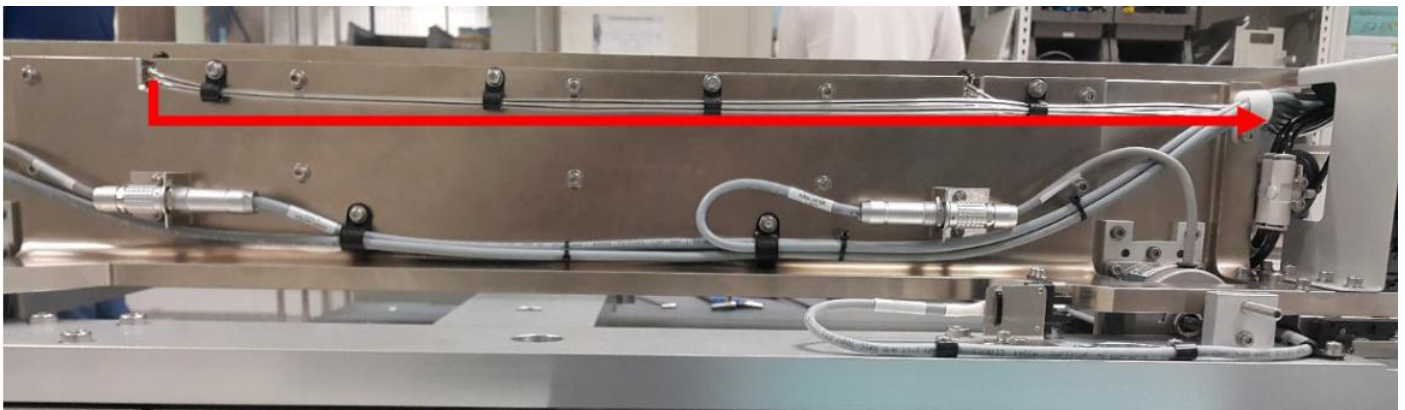

Figure 30 Sensor 3 Emitter Cable Routing
9. Route Sensor 3 Emitter cable by refer Figure 30 to Figure 35